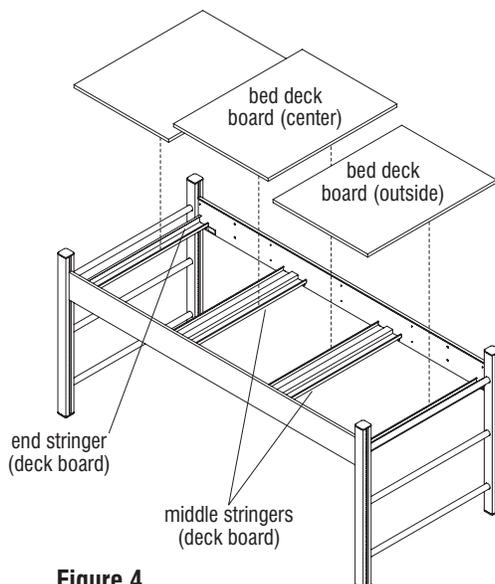

Figure 4
2. Bed decking consists of three boards that are set in place between side rails and are supported by middle and end stringers. Set the outside boards into place first, followed by the center bed deck board (Figure 4).